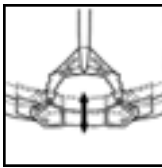

FIGURE 12
2. **Vertical Adjustment:** For optimum performance, the Fusion Fit System should cradle the rear of your head with the middle strap, connecting the two logo buttons, positioned just below the occipital lobe. If it is too high or too low, slide it to a lower or higher position by clicking it into the next notch, as shown in Figure 12.